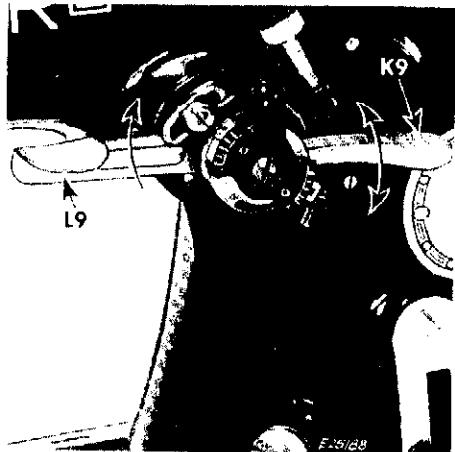

Fig. 214
**SETTINGS:** Bight control lever **K9** at any desired setting **between lowest and highest point** and position lever **L9** at **highest point**, as shown in Fig. 214.